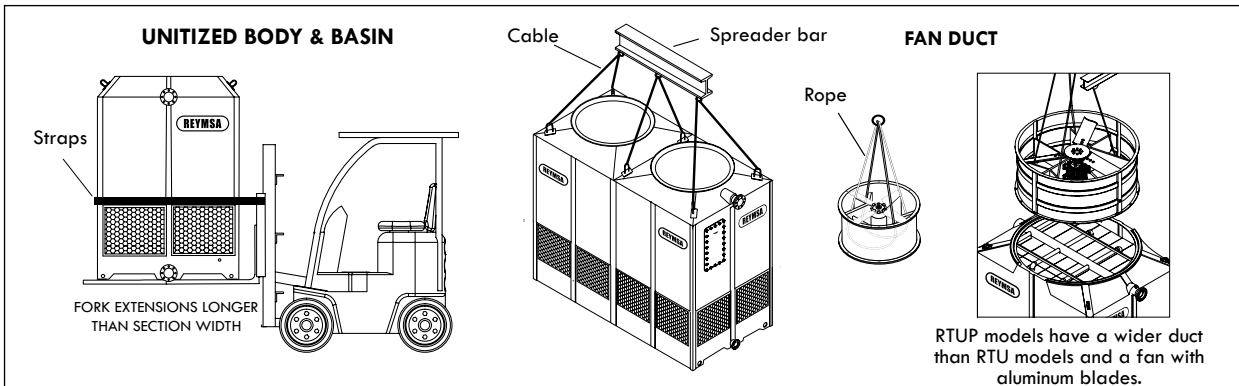

Figure A-42: Four Fan Tower fork and crane lifting
- B. After verifying the equipment is received in proper condition, proceed to unload it piece by piece, with a crane or forklift of the appropriate capacity (see Figure A-42 for reference). If you unload with a forklift, use fork extensions of the proper pallet length according to the width of your model.
- D. For crane lifting, it's recommended to use a minimum lifting angle of 60° between the strap and the horizontal. The Body section has U-bolts for lifting, one on each corner. Place the straps through the u-bolts (as shown in Figure A-42) and use a spreader bar to avoid damage on the upper edge of the Tower. Don't balance until tensing the straps.